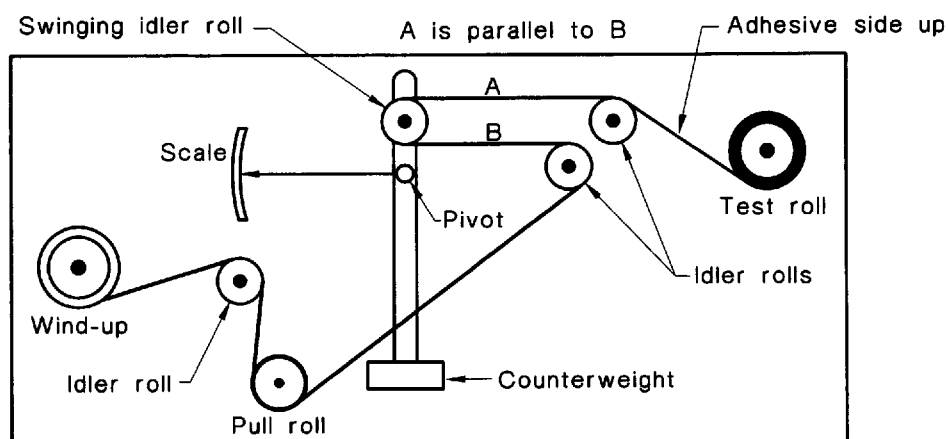

FIGURE 2 DIAGRAMMATIC ARRANGEMENT OF SUGGESTED UNWIND MACHINE
- (c) *Unwind machine*—which allows the unwind force to be measured by means of an indicator and calibrated scale (see Figure 2).
- (a) Thread one end of the tape on the unwind machine, depicted in Figure 2.